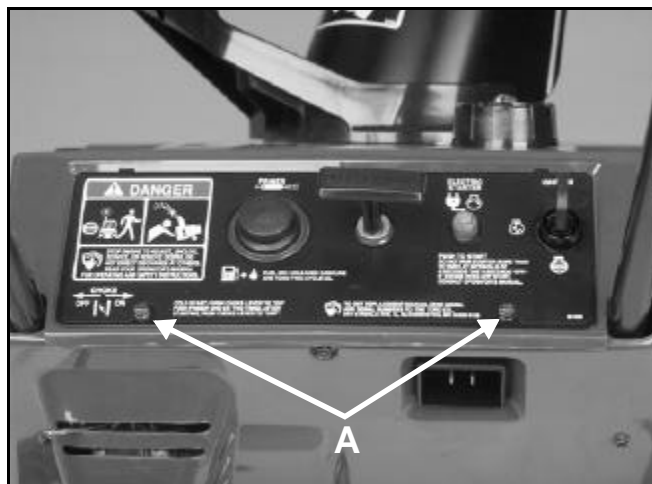

Figure 48
- 4. Remove the two screws at the bottom of the control panel and remove the control panel cover (Figure 48).